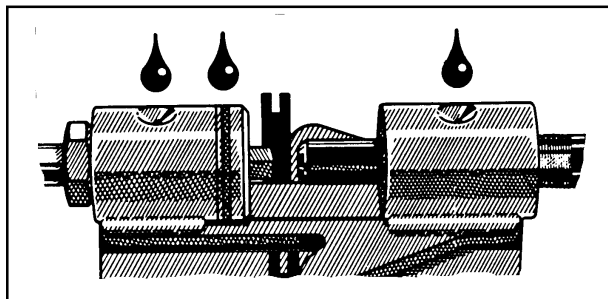

Figure 23. Spinner Oiling Chambers
**NOTE:** The rivet spinner is equipped with oiling chambers and should be maintained periodically with a light-weight oil (figure 23).